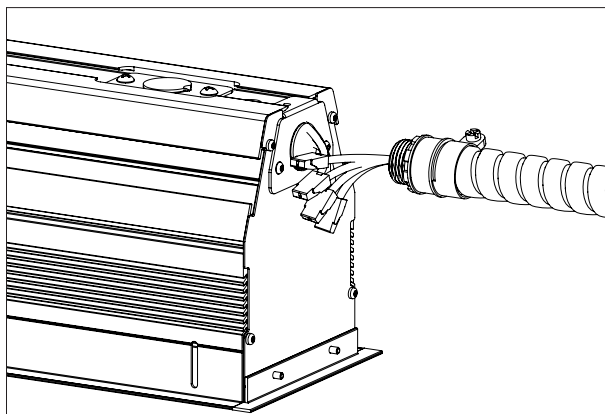

fig. 19
- Standard IN wiring: Remove the endcap conduit plate (see fig. 19).